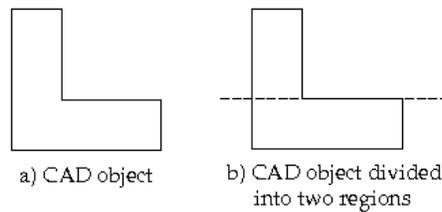

Figure 4.2.7: Converting an L-Shaped CAD Object
When converting CAD geometry into Airpak objects, you can define a region in your model and then divide the region into segments. Airpak can then convert all the CAD geometry within each segment into an Airpak object. For example, you could select a CAD object that is L-shaped, as shown in Figure 4.2.7a. You could then divide the L-shaped geometry into two regions, as shown in Figure 4.2.8b. Airpak can split the CAD objects into two parts along the dividing line and then convert the CAD geometry in each region into an Airpak object (i.e., Airpak will create two rectangular Airpak objects for the example shown in Figure 4.2.7.)
- (b) Under **Shapes to try**, select the shapes that you want **Airpak** to try to fit to the CAD geometry. For example, if you are converting the surfaces shown in Figure 4.2.7 into rectangular partitions, select **quad** (rectangle) in the **CAD data operation options** panel and deselect all other shapes under **Shapes to try**.